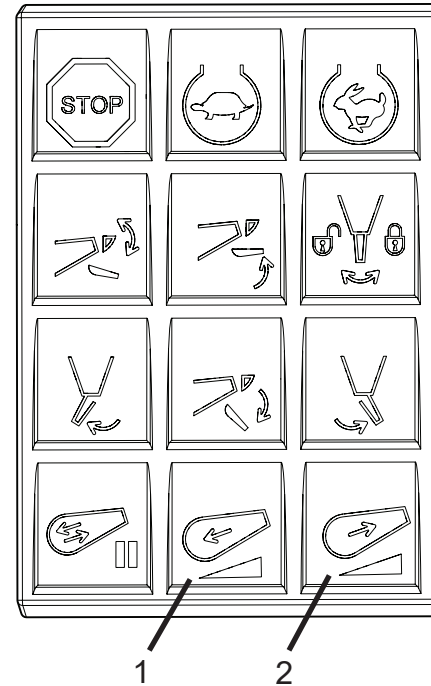

Figure 40
- If in-cab keypad or rear keypad pendant is selected, keep pressing the CHARGE (forward) (Figure 40, Item 1) or DISCHARGE button (backward) (Figure 40, Item 2) until the desired rotation speed is achieved. You may also press and hold the charge or discharge keypad buttons until desired rotation speed is achieved. The key indicators will illuminate only when pressed.